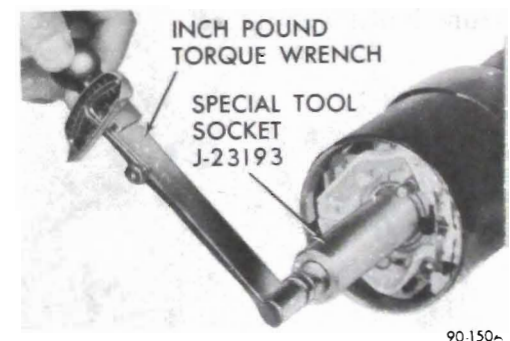

Figure 90-151 - Adjusting Steering Shaft Torque
21. Install inner race, inner race seat and bearing lock nut. Adjust steering shaft torque with column in straight-ahead position to 1/2 to 1-1/2 in.lb. more than is required to rotate steering shaft with lock nut loose. See Figure 90-151.